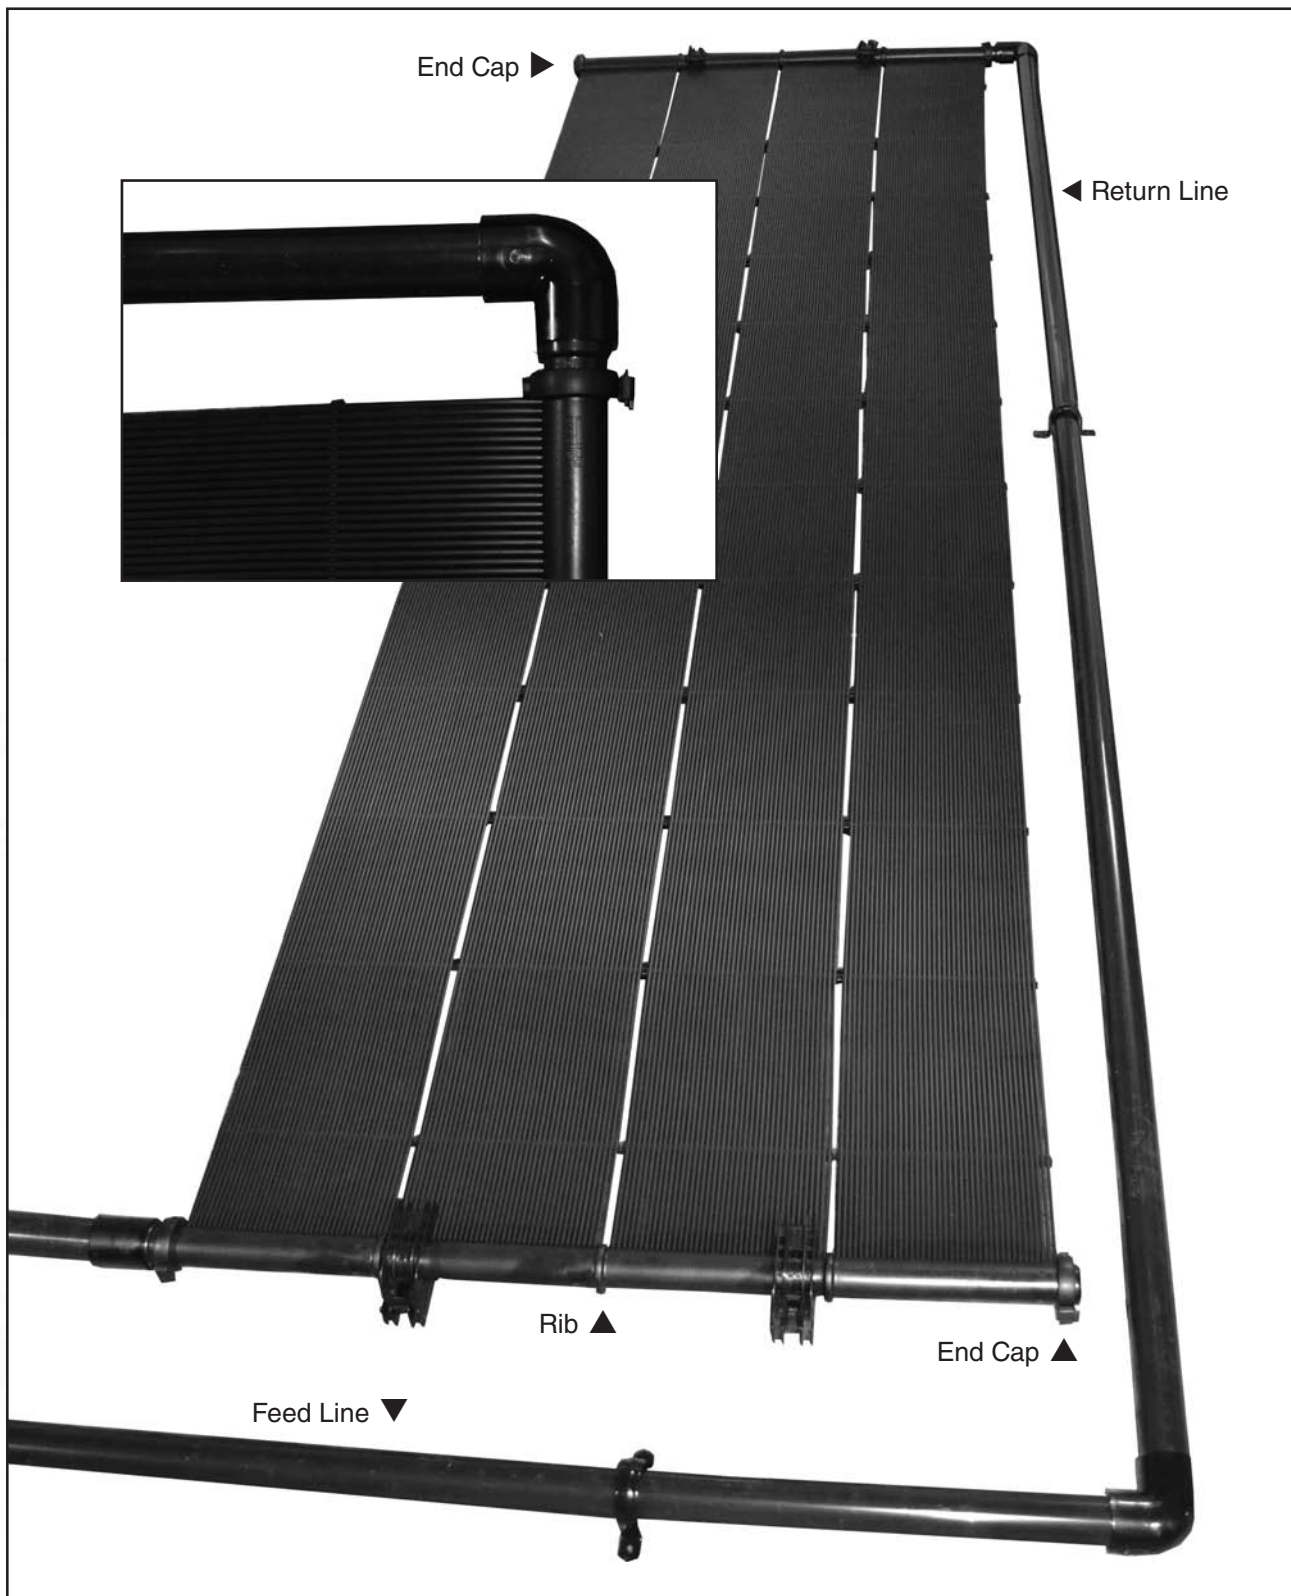

Fig. 14
1. Cement the appropriate size PVC 90 degree elbow to the return line stub facing down toward the bottom header. Repeat the process for the feed line header stub and face the elbow down away from the array (see Fig. 14, page 17)